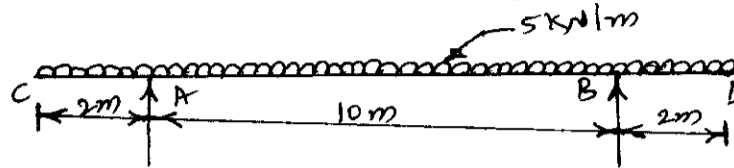

Fig.Q5(c)
c. Draw SFD and BMD for the loading pattern on the beam in Fig.Q5(c). Indicate the point of contraflexure. Also locate the maximum BM with its magnitude. (12 Marks)